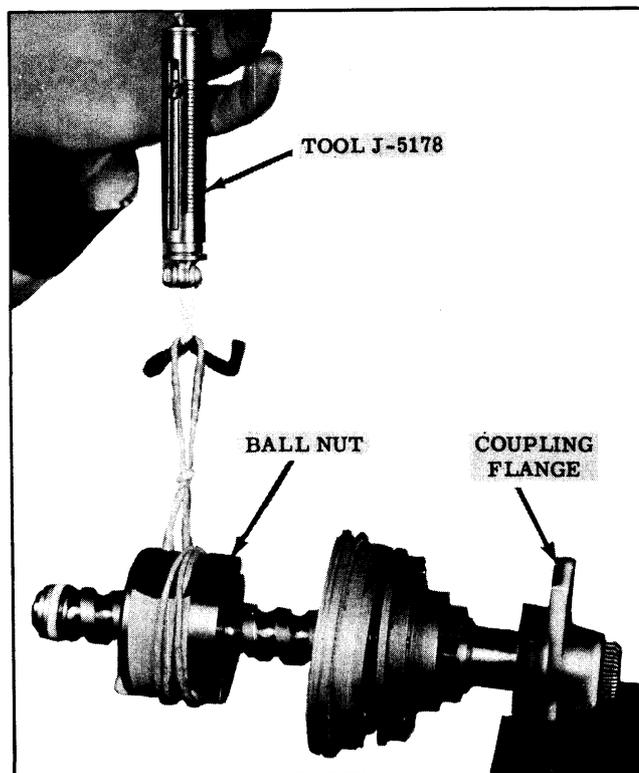

Fig. 5-58 Checking Over-Center Preload
9. Check ball nut over-center preload if it were necessary to install a new set of balls to correct the over-center preload. (See Fig. 5-58) After the correct preload is obtained, place masking tape over ball guides to prevent them from falling out.